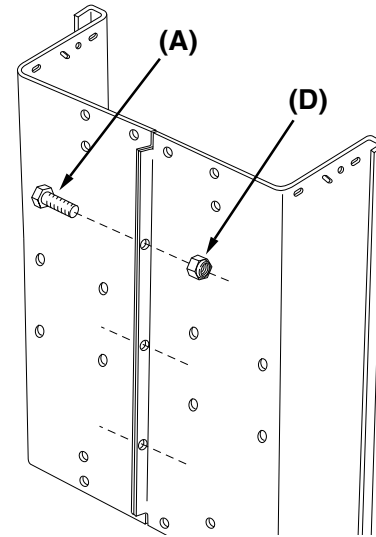

Figure 1
STEP 1 (SEE FIGURE 1): Assemble the cart body using three 1/4" x 5/8" hex bolts (A) and 1/4" nylock nuts (D). **Tighten.**